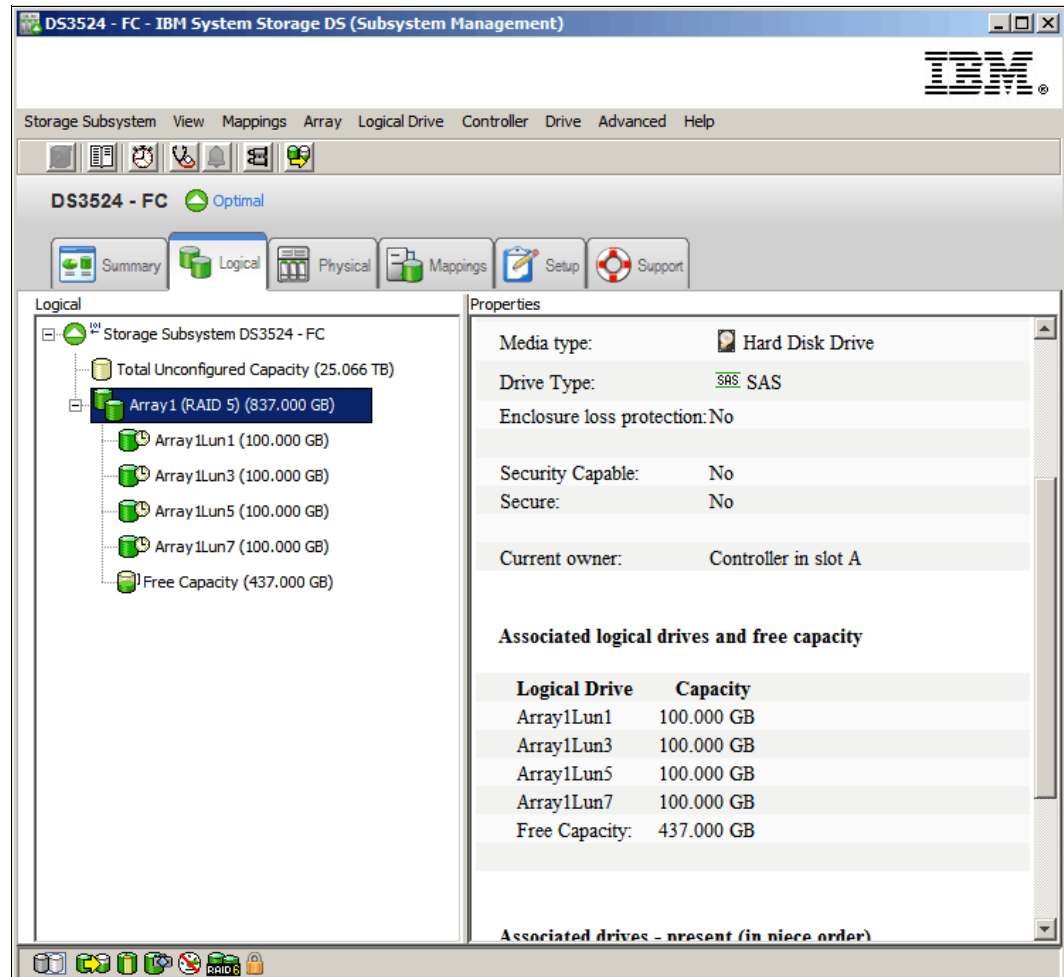

Figure 14-150 Defragment Array completed
3. Click the **Yes** button. All of the free data blocks on the Free Capacity nodes are consolidated into one Free Capacity node that contains a larger set of contiguous data blocks. The Logical tab is updated to show the larger, single Free Capacity node as shown in Figure 14-150. You can select this Free Capacity node for logical drive creation.